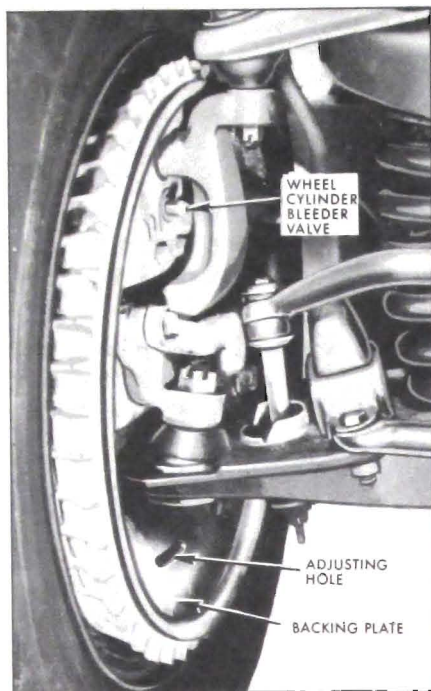

Figure 9-10—Right Wheel and Brake Assembly
2. Slip a brake bleeder tube over ball of wheel cylinder bleeder valve. Place lower end of bleeder tube in a clean glass jar. Unscrew bleeder valve 3/4 of a turn. See Figure 9-10.
3. Slip a brake bleeder tube over ball of wheel cylinder bleeder valve. Place lower end of bleeder tube in a clean glass jar. Unscrew bleeder valve 3/4 of a turn. See Figure 9-10.